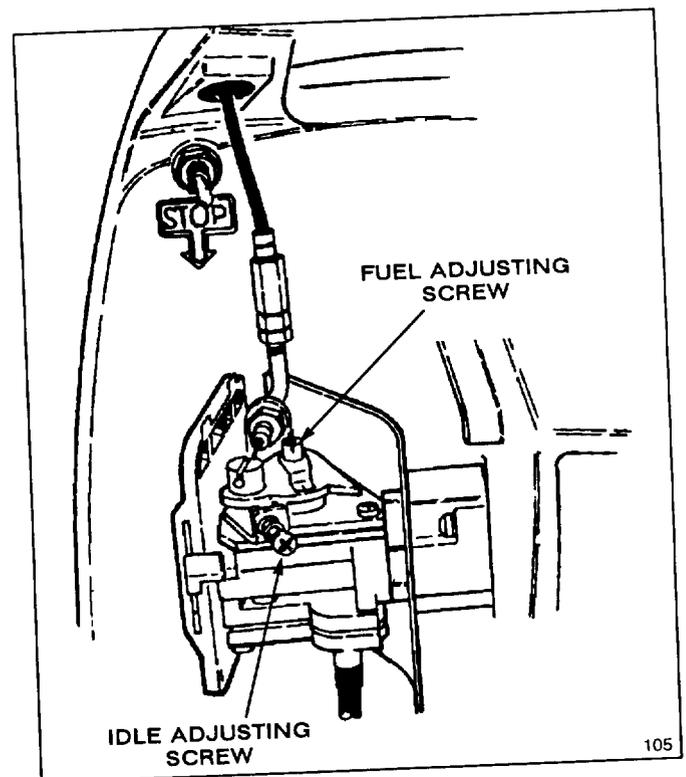

Figure 7
ADJUSTING CARBURETOR (Fig. 7)
1. Fuel Adjusting Screw—Screw is set in the middle of five notches. If adjustment is too rich, turn screw to the right. If adjustment is too lean, turn screw to the left (Fig. 7). Adjust while engine is at low speed.
2. Idle Speed Adjusting Screw—Adjust screw to attain idle speed of 3000-3200 RPM (Fig. 7).